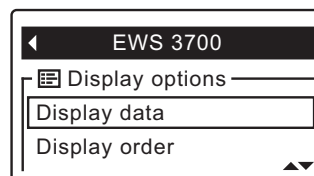

FIG. 66
3. Press the DOWN (▼) button to scroll through the menu options until **Display data** is highlighted in a box (See Figure 66).
8. When selections are complete, exit this menu by pressing the LEFT (◀) button. The display will go back to the device menu (Figure 66).